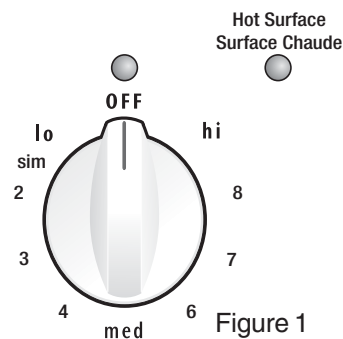

Figure 1
2. Push in and turn the surface control knob in either direction to the desired setting (Figure 1). Turn the knob to adjust the setting if desired. Start most cooking operations on a higher setting and then turn to a lower setting to finish cooking. Each surface element provides a constant amount of heat at each setting. A glowing red surface heating area extending beyond the bottom edge of the cookware indicates the cookware is **too small** for the surface heating area.